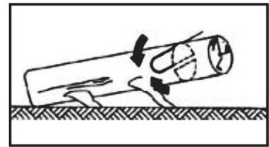

Fig. 4B
2. Log supported on 1 end: First, cut from bottom (underbuck) 1/3 diameter of log to avoid splintering. Second, cut from above (overbuck) to meet first cut and avoid pinching (Fig. 4B).